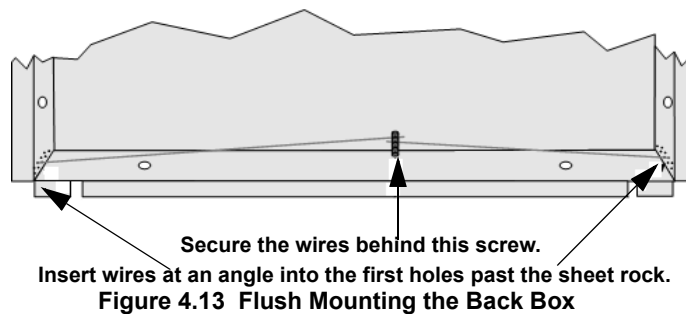

Figure 4.13 Flush Mounting the Back Box
4. Secure the wires behind the screws as shown in Figure 4.13. When you place four wires in place, mount the back box into the mounting hole in the sheet rock.